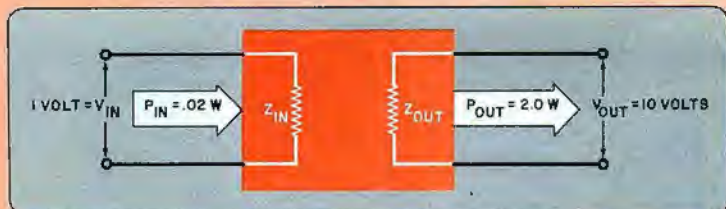

Fig. 3. Simple network illustrates voltage and power relationships.
Here's a simple problem worked out both ways. What are the input and output power, gain factor, and decibel gain for the network shown in Fig. 3? First, we calculate signal power using the equation $P = E^2/Z$: $P_I = 1^2/50 = 1/50 = 0.02 \text{ watt}$ and $P_O = 10^2/50 = 100/50 = 2.0 \text{ watts}$. Then $K = P_O/P_I = 2.0/0.02 = 100$ and $G(\text{dB}) = 10 \log_{10} (K) = 10 \log_{10} (100) = 10 (2) = 20 \text{ dB}$. In the alternative solution, we use the voltage ratio expression: $G(\text{dB}) = 20 \log_{10} (V_O/V_I) = 20 \log_{10} (10/1) = 20 \log_{10} (10) = (20) (1) = 20 \text{ dB}$. Table III lists common voltage ratios and their resulting power gains in decibels—if input and output impedances are equal.